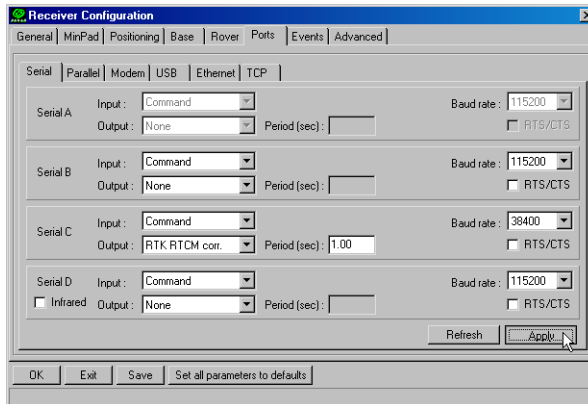

Figure 3-12. Base Configuration – Ports
11. Select the **Ports** tab and set the following port parameters (Figure 3-12 on page 3-15). Use serial port C for an internal PDL and GSM modem.